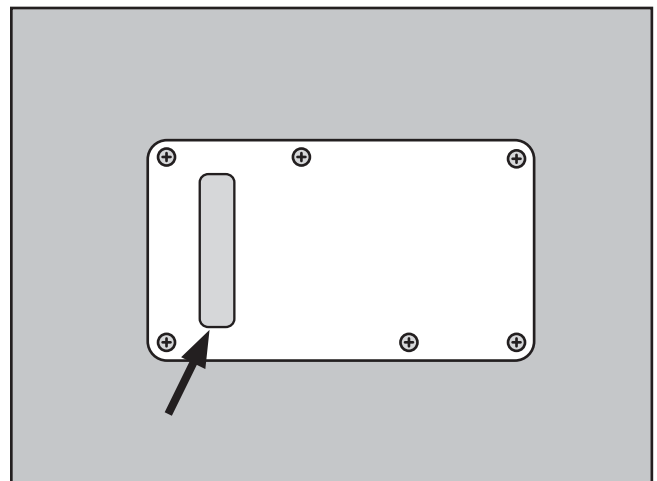

Figure 29. Back plate hole location.
1. Slide the 1st guitar string through the hole in the back plate (see **Figure 29**).